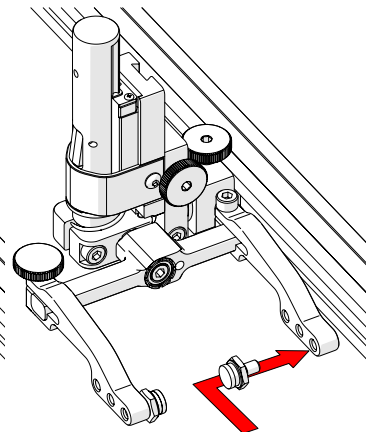

Fig. 91 - Place buttons
3. Position the pivot buttons where necessary. When a narrow scanning footprint is required, use the pivot button holes closest to the yoke (Fig. 91).